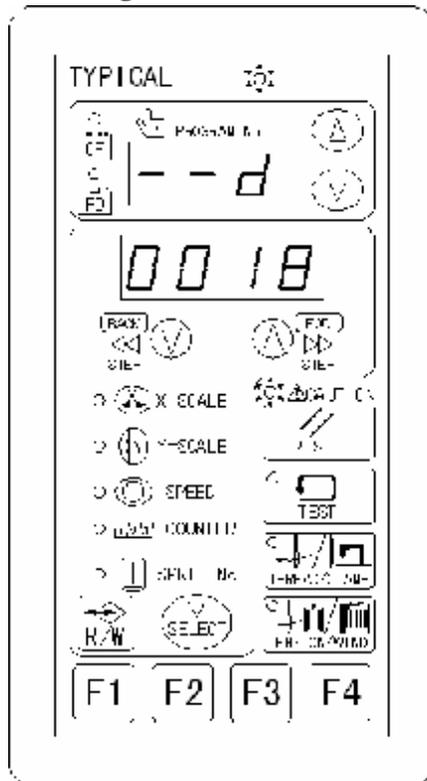

Fig. 6-12
3. Use the above methods to input B~S points entirely, with operation panel shown in Fig. 6-12. Use handwheel to lift machine needle to highest point.